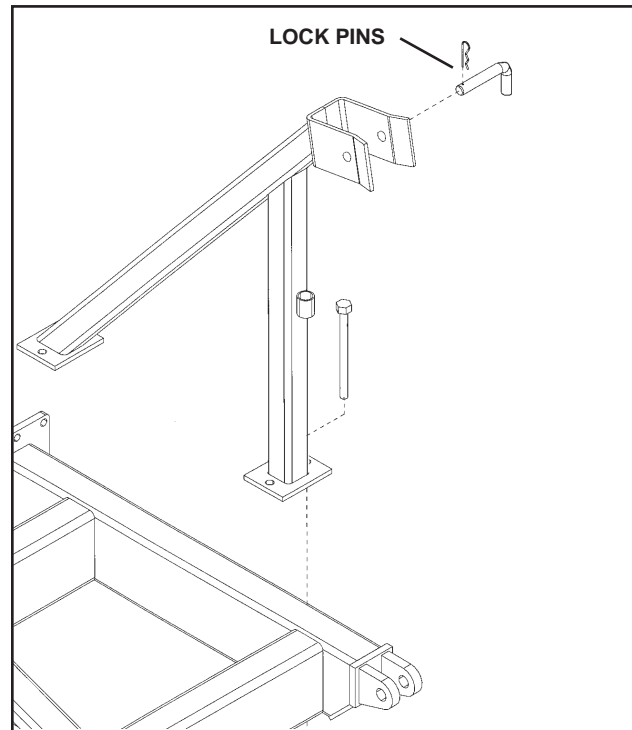

Figure 8
1. Always use wing locks when folding wings for transporting drill. Always unlock wings prior to unfolding wings. Failure to unlock wings can cause serious damage to drill frame. (Figure 8)